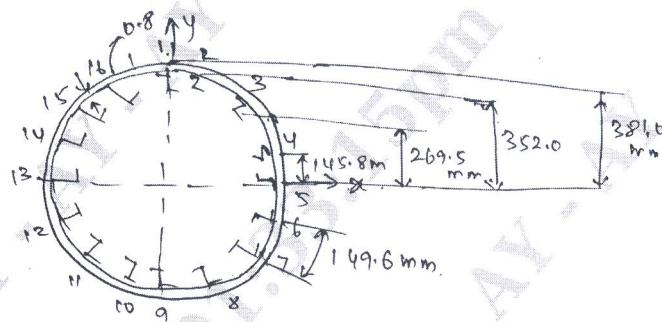

Fig. Q9
- 9 The fuselage is subjected to a vertical shear load of 100 kN applied at a distance of 150 mm from the vertical axis of symmetry as shown for the idealized section in Fig. Q9. Calculate the distribution of shear flow in the section. (16 Marks)